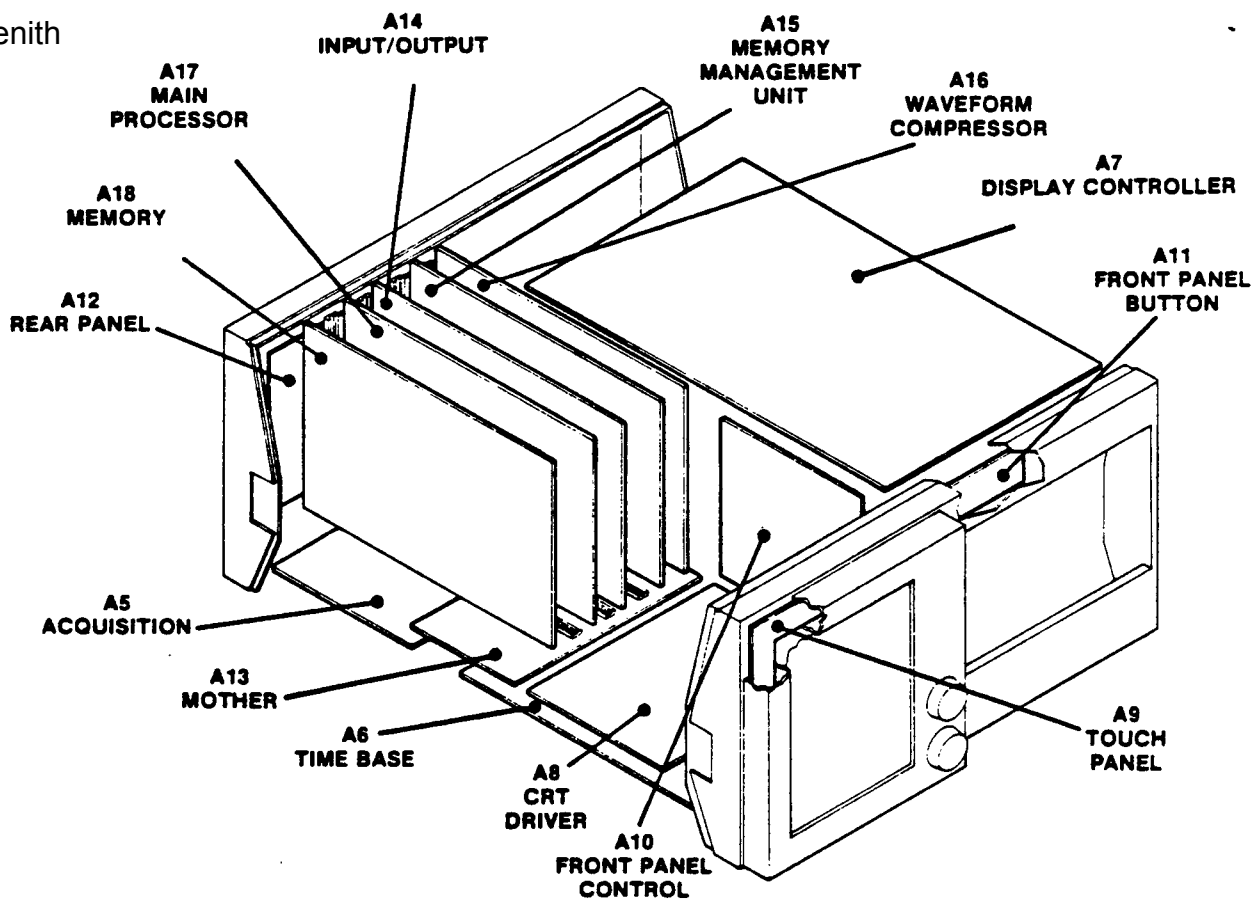

Figure 1. - 11401/11402 circuit locations.
- () 2. Position the instrument with the bottom facing the installer. The Acquisition circuit board A5, is located on the bottom and towards the rear of the instrument, refer to Figure 1.